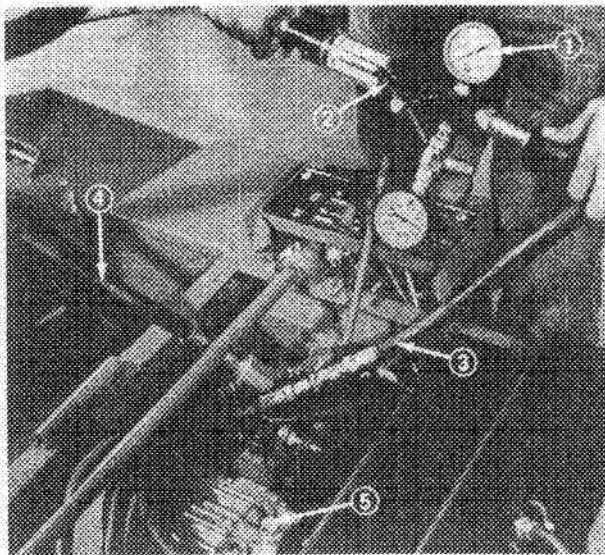

Figure 71
3. Remove seat, seat support cover and seat support and remove line from top of pump housing to lift valve from lift valve fitting (Fig. 71).
4. Install hydraulic inlet hose of test gauge into line from transmission and test gauge return line into lift valve fitting (Fig. 71).
6. Increase engine speed to full throttle (3100 - 3250 rpm) and watch flow and pressure gauges. Slowly close load valve until flow gauge reads one (1) GPM (0.063 L/s). Pressure reading at (1) GPM (0.063 L/s) should not be lower than 500 psi (3447.5 kPa). If one (1) GPM or a minimum of 500 psi (3447.5 kPa) cannot be achieved, remove implement relief valve and examine for contamination or broken parts (Fig. 71). If no contamination or damage is evident, add one shim to assembly and repeat test.